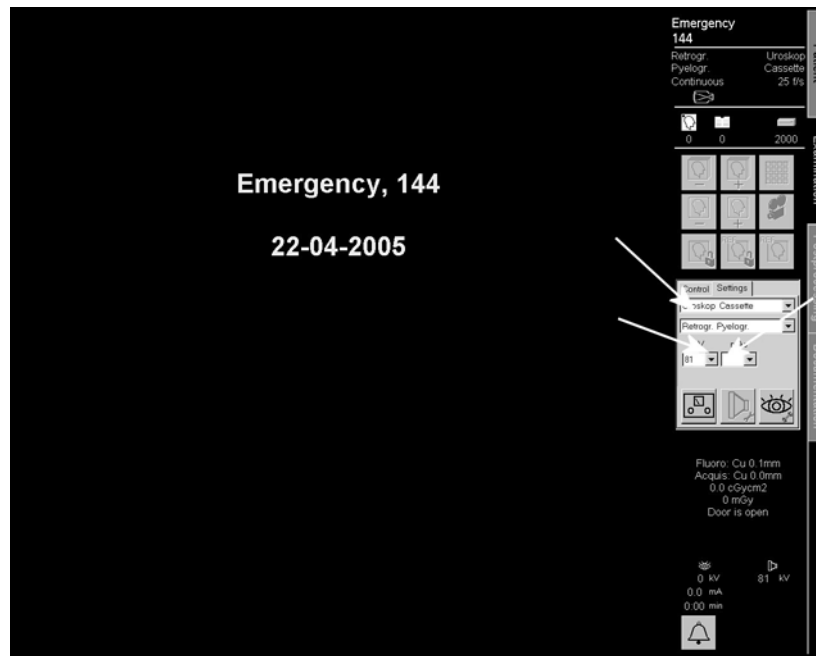

Fig. 3
- Select the "Examination" task card and select "Uroskop Cassette", "70 kV" and "320 mAs" in the list box (Fig. 3) of the "Settings" sub task card.